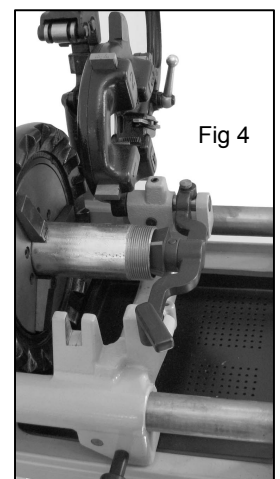

Fig 4
2. Switch on the machine. Advance reamer into pipe and complete reaming by exerting pressure on handwheel (Fig 4).